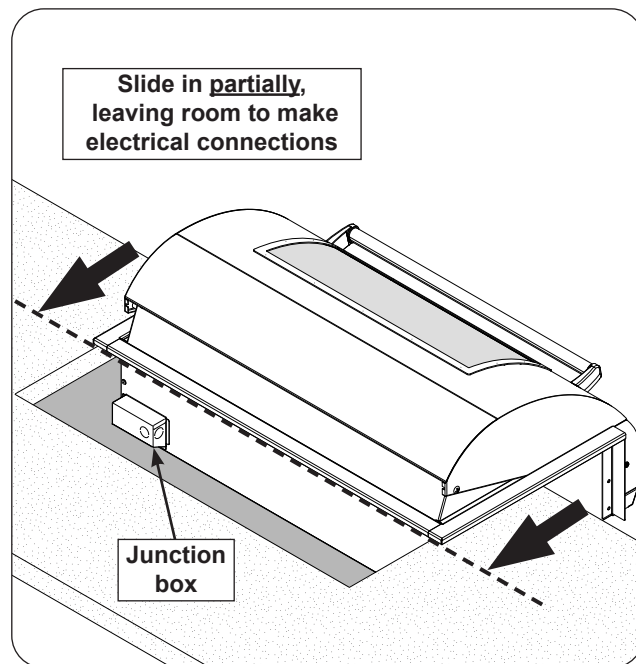

Fig. 27-2 Position unit for wiring
1. Slide the unit approximately halfway (or more) into the enclosure cutout so that the unit is resting safely while providing space to access the unit's rear junction box. See Fig. 27-2. (If the enclosure has a solid area behind the unit, an opening for the electrical is required. Reference the Electrical System Clearances section under the GRILL ENCLOSURE section.)